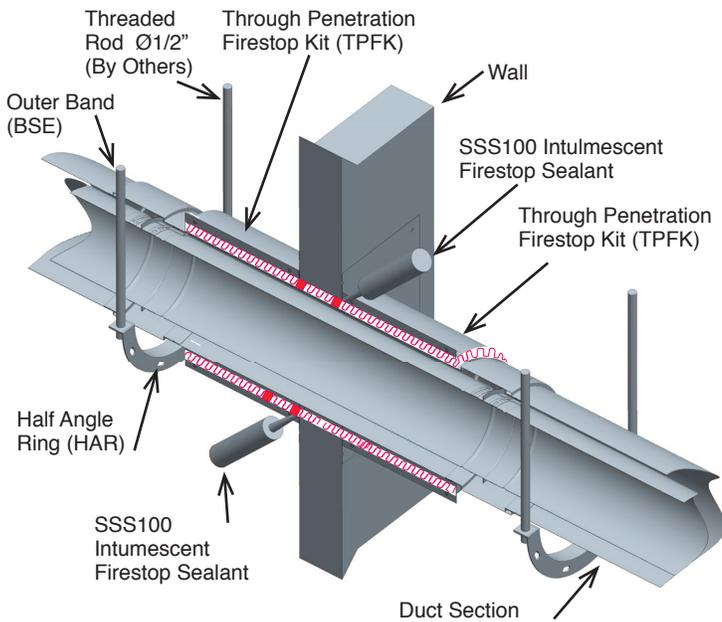

Figure 83- TPFK Assembled Through a Wall
- For Wall Penetration, use two **TPFK**'s. See **Figure 83** and **Figure 80**.
Note that cover plates, wrap insulation and split closure bands are installed on the top surface of a floor penetration and on both surfaces of a wall penetration. See Figure 83 for the penetration through a wall.